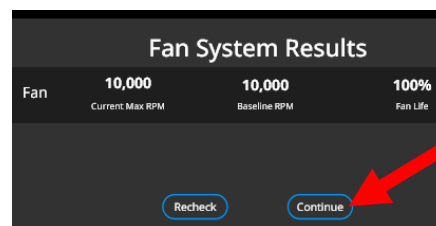

Figure 16
24. Once the calibration without the filter is complete, the **Fan System Results** are displayed. Press **Continue** (see Figure 16).